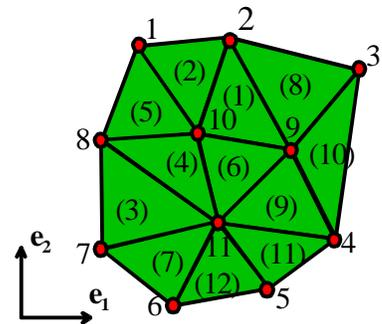

Fig 6: A simple unstructured grid
4. You can smooth data on an unstructured grid using a version of 'Laplacian smoothing' – in this procedure, the value of a function at each point in the grid is replaced by the average of all the other points in the grid that share an edge of a triangle with the point of interest. For example, in the grid shown in Fig 6, the value at vertex 9 would be computed as the average of grid points 2,3,4,11 and 10. You need some trickery to make this process effective: for example it usually gives bad results for grid points on the edge of the region, such as 1,2,3 etc. These can be omitted from the smoothing (fairly easy), or for something a bit more sophisticated use only line smoothing around the edge, i.e. replace the value at grid point 1 by the average of 8 and 2 (a bit harder).